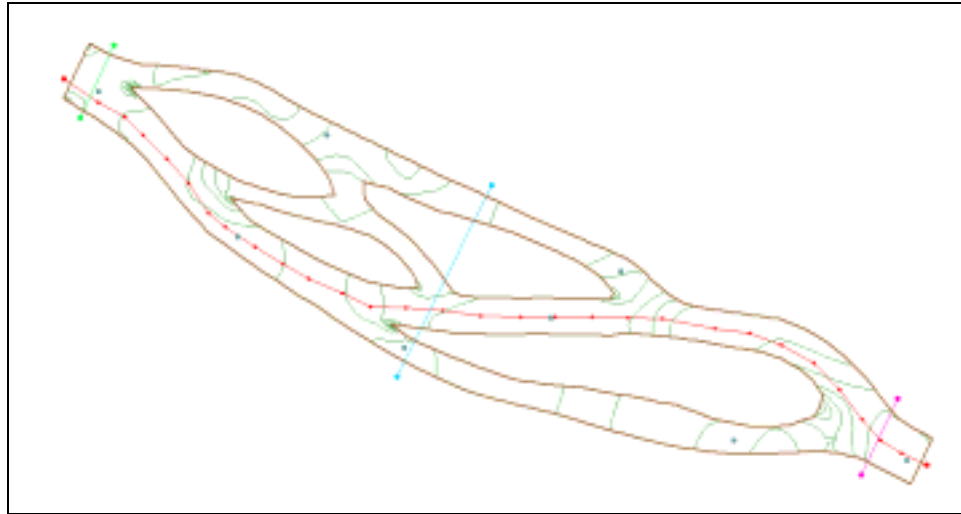

Figure 17-8 Profile and cross-section arcs
3. Create an arc down the main channel, as shown in Figure 17-8. Remember to double-click the last point to end the arc.
2. Create each of the cross section arcs, as shown in Figure 17-8. Note: When creating these, DO NOT click ON the profile arc, as this would split it.